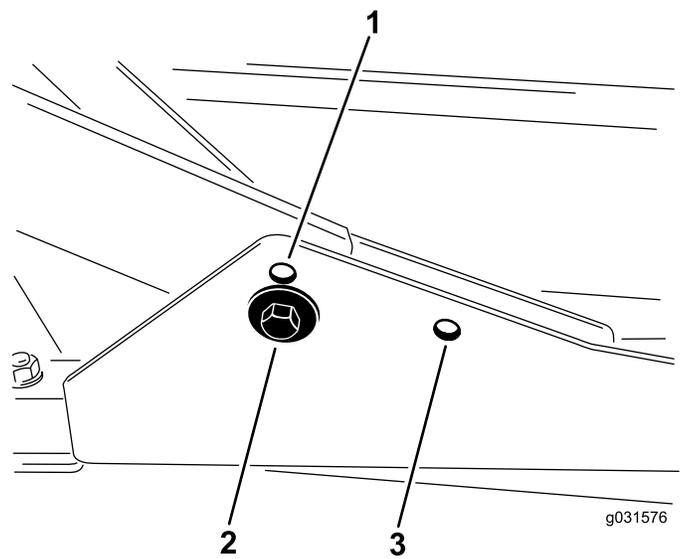

Figure 12
1. For heights of cut in the 2 to 7.6 cm (3/4 to 3 inches) range, mount the front carrier frames in the lower, front mounting holes (Figure 12).
2. For heights of cut in the 6.3 to 10 cm (2-1/2 to 4 inches) range, mount the front carrier frames in the upper, front mounting holes (Figure 12).
For all heights of cut, mount the rear cutting unit in the rear mounting holes (Figure 12).